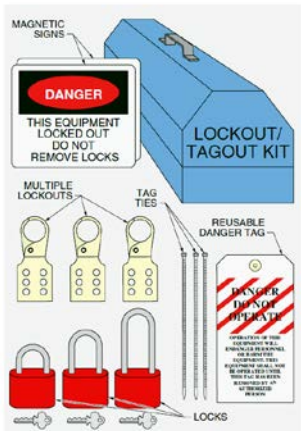

Figure 2: Lockout/Tagout Kit
- If any corrective or preventative procedures are required, follow lockout/tagout procedures as per your authority (figure 2).